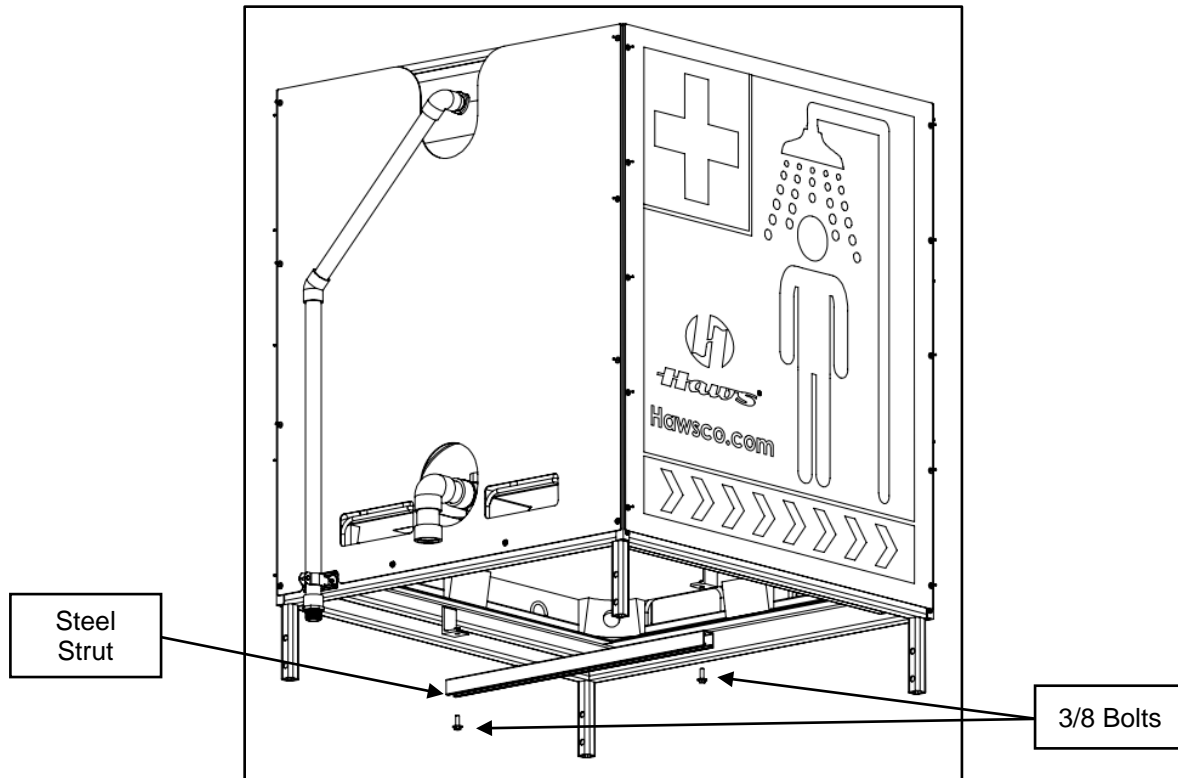

Figure 15. Mounting Steel Strut for Shower Piping (Side Frame Panels Not Shown for Clarity)
21. Use two (2) each 3/8-16 X 1-1/4" bolts (Item #15) to install Steel Strut (Item #14) to the underside of the two (2) tabs under the Tank Assembly as shown in Figure 15. The 1-1/4" bolting should consist of one 3/8-16 X 1-1/4" bolt (Item #15), two 3/8" Flat Washers (Item #16), and one 3/8-16 Nut (Item #17). The open side of the channel should face down. Tighten the two (2) bolts with a torque wrench to 23 ft-lb.